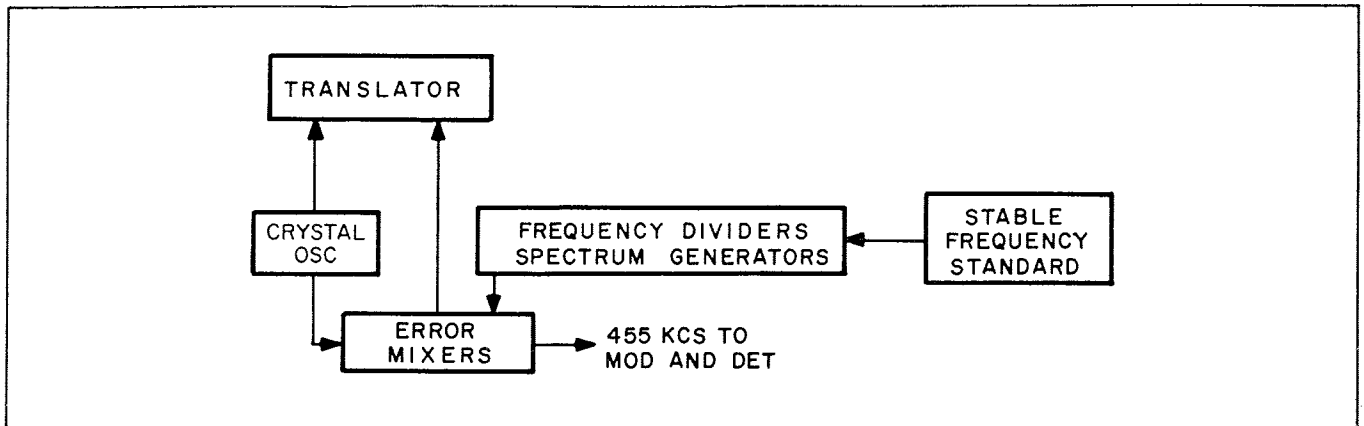

Figure 4.2 - Frequency Synthesizer Simplified Block Diagram, Illustrating Error Loop
dividers, spectrum generators and a frequency standard as shown in figure 4.2. The synthesizer, in effect, generates the desired frequencies with accuracy and stability matching those of the precise frequency standard.
4.3.1 ERROR MIXERS. As shown in figure 4.2, the crystal oscillator output, with a certain frequency error, is fed into the Translator. The same output is fed into an error mixer, which compares the oscillator frequency and a frequency from a spectrum generator. Since the spectrum generator derives its accuracy from the frequency standard, the error mixer produces an output containing the combined errors of the frequency standard and the crystal oscillator. The error of the frequency standard is negligible compared to that of the crystal, so we consider it as being non-existent. Thus the error mixer output consists of a new frequency which contains the same amount of error as that of the crystal oscillator. Because of the algebraic method in which the error mixer subtracts the crystal oscillator frequency from the spectrum frequency, the relationship between the error and the frequency is reversed. If the crystal oscillator has a positive error (high in frequency) the error mixer output frequency will have a negative error (low in frequency), and vice-versa.